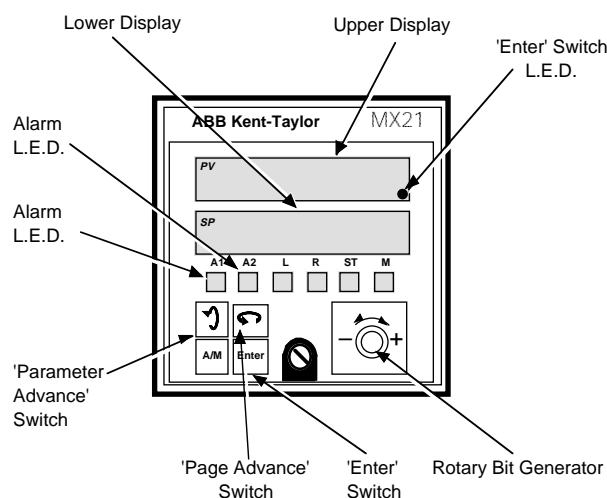

Fig. 14 Familiarisation with Controls, Displays and L.E.D Indication
The programming controls, upper and lower displays and indication l.e.ds are located on the front panel of the display unit – see Fig. 14.
5.4.1 Controls – Fig. 14
'Page Advance' switch – used to advance to the next program page (see Fig. 14).
'Parameter Advance' switch – used to advance to the next parameter within a program page (see Fig. 14).
5.4.2 Displays – Fig. 14
5.4.3 L.E.D. Indication – Fig. 14
Any changes to the operating parameters are implemented using the 'Rotary Bit-generator' and the 'Enter' switch – see Fig. 14.